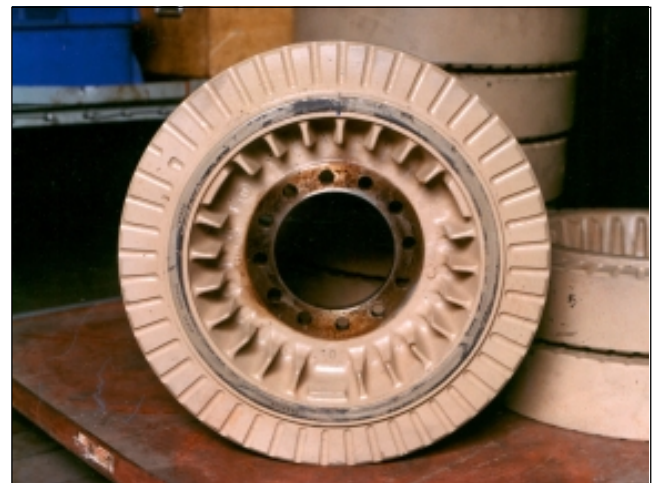

Fig. 8-2. Vibration damper alignment marks
The damper hub (1), (Fig. 8-2) and the inertia member (2) are stamped with an index mark (3) to permit the detection of movement between the two components.